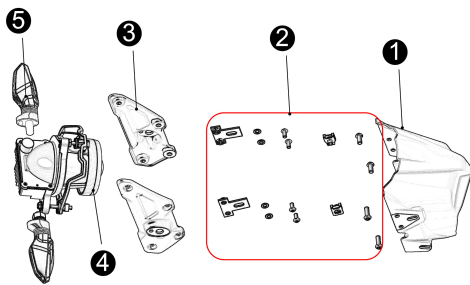

Fig 11
6.4.2 Disassemble headlight and front turn light (see Fig 11)
- .dismount bolts of support of bow cap② and separate headlight and bow cap①③
- .dismount bolts of headlight and separate headlight and bow cap①④